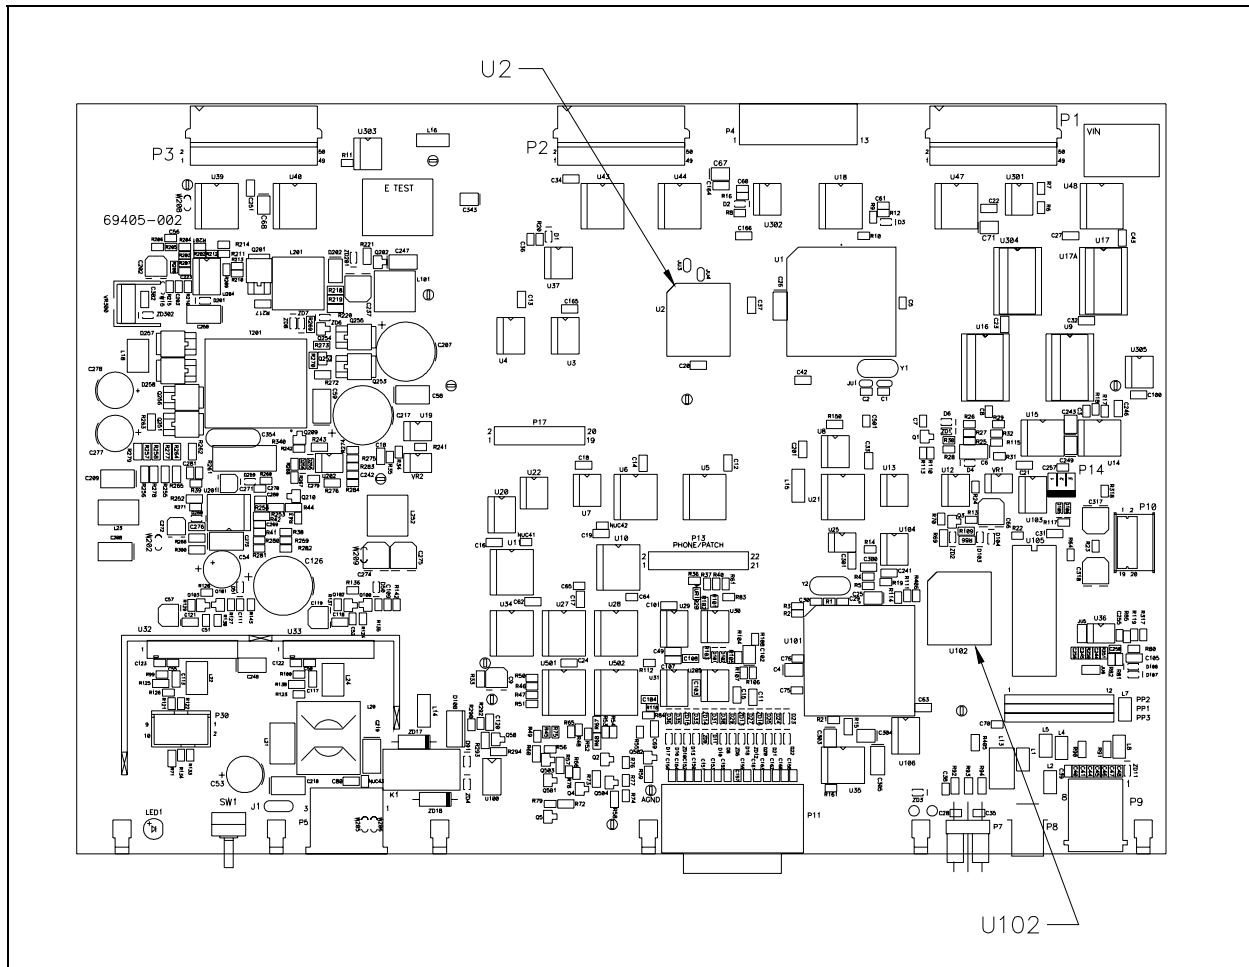

Figure 2. Main (69405-002) PCBA
8. On the main PCBA locate U2 EPROM socket and extract the EPROM. Refer to Figure 2.